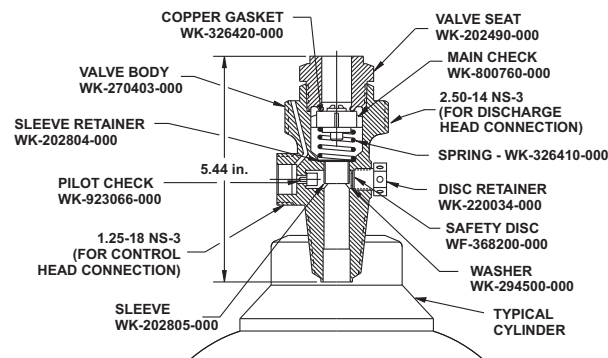

Figure 7-3. 5/8-inch I-Valve for Nitrogen Driver
**Note:** Refer to Figure 7-3 and Table 7-2.
**Note:** The main check assembly is installed with the rubber seat facing up. The copper sealing gasket MUST be replaced when the valve seat is removed. Refer to Figure 7-3.